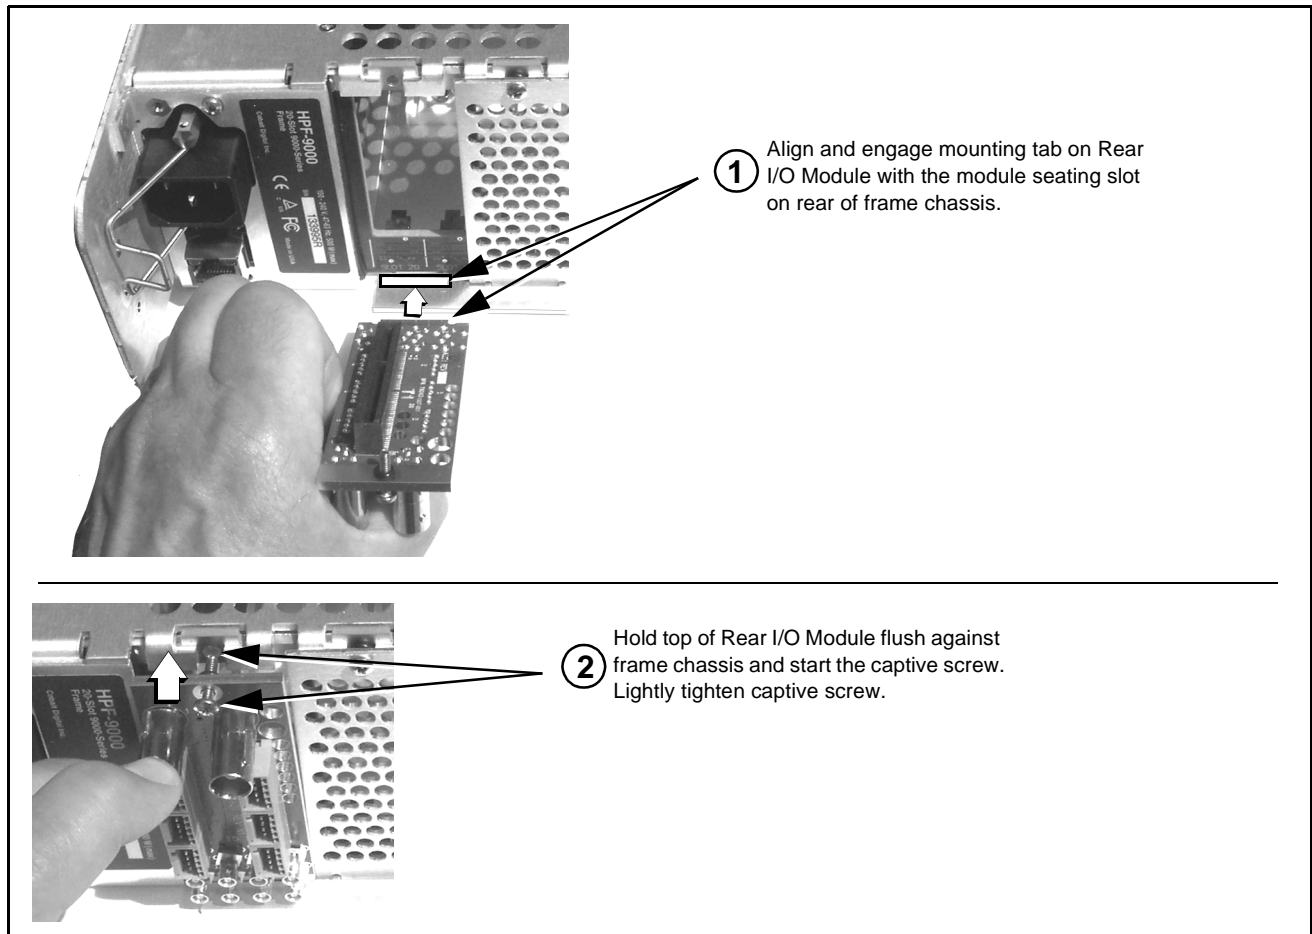

Figure 2-7 Rear I/O Module Installation
2. In the mounting area corresponding to the slot location, install Rear I/O Module as shown in Figure 2-7.